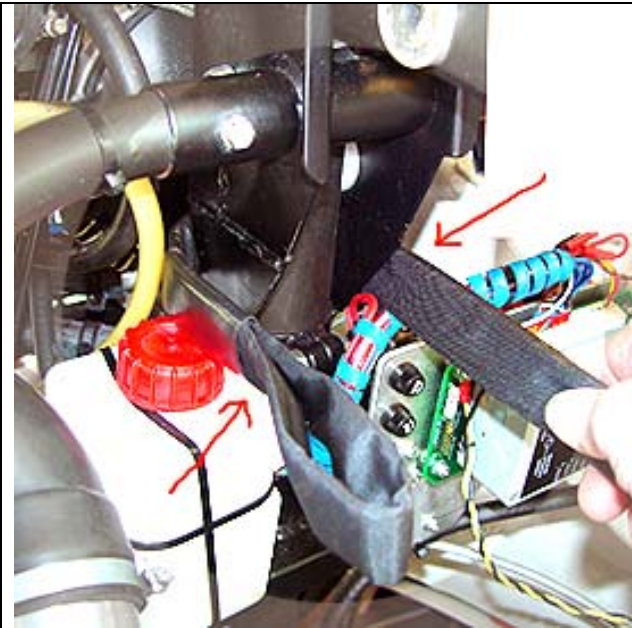
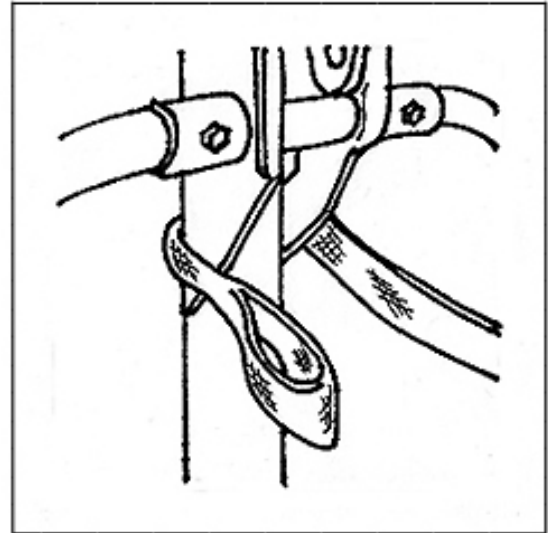

Figure 2-4: One end of the harness wrapped around the vertical mast tube.
Figure 2-5: A diagram showing the correct path of the harness around the vertical mast tube.
- 2.2 Wrap one end of the harness around the Vertical Mast tube, underneath the seat frame, as pictured in Figure 2-4 and diagrammed in Figure 2-5.